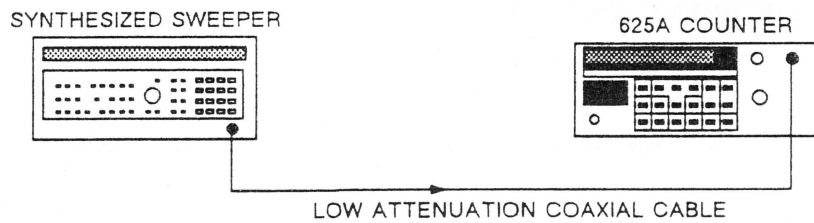

Figure 8-6. Band 2 Center Frequency Test Setup.
1. Connect equipment as shown in Figure 8-6 and turn equipment on.